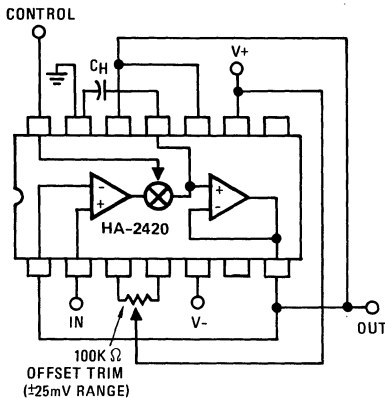

Figure 6
The offset voltage of the HA-2420/2425 may be adjusted using a  $100k\Omega$  trim pot, as shown in Figure 6. The recommended adjustment procedure is:
1. Figure 6 shows a typical unity gain circuit, with Offset Zeroing. All of the other normal op amp feedback configurations may be used with the HA-2420/2425. The input amplifier may be used as a gated amplifier by utilizing Pin 11 as the output. This amplifier has excellent drive capabilities along with exceptionally low switch leakage.